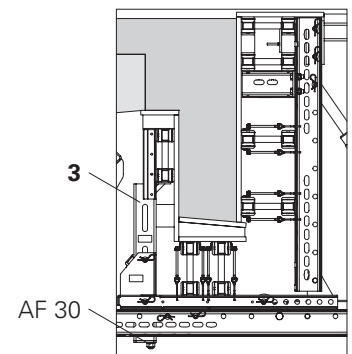

Fig. A2.05b
- By turning the bolt (AF 30), the standard can be adjusted by  $\pm 5.0$  cm. (Fig. A2.05b)